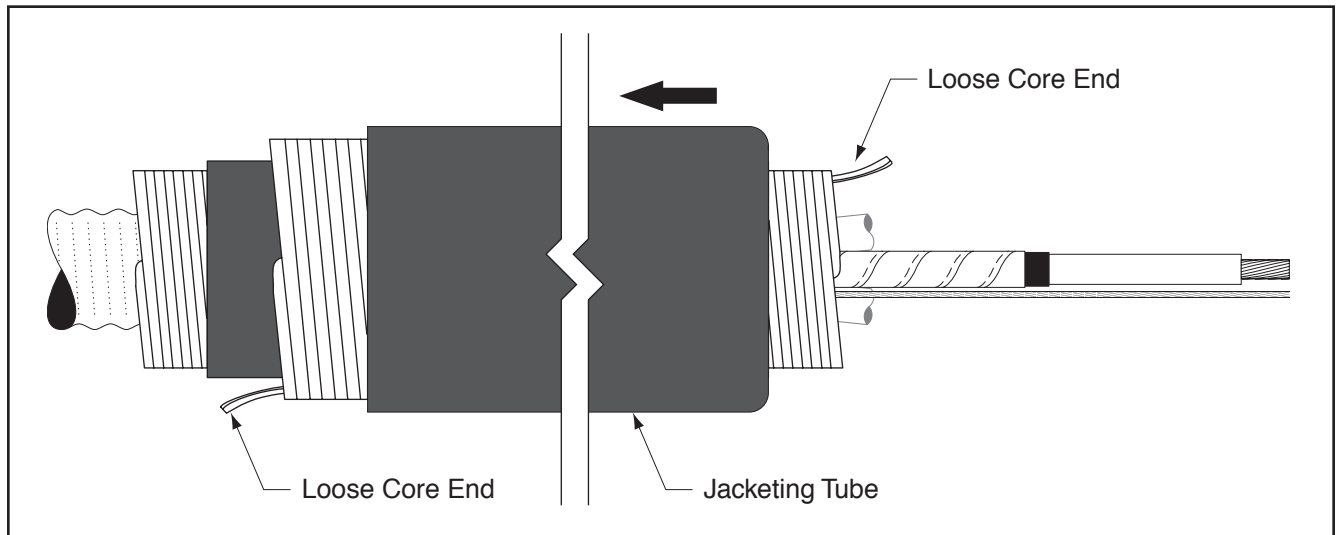

Figure 6
2.2 Slide the cold shrink jacketing tube onto Cable X as shown (Figure 6).